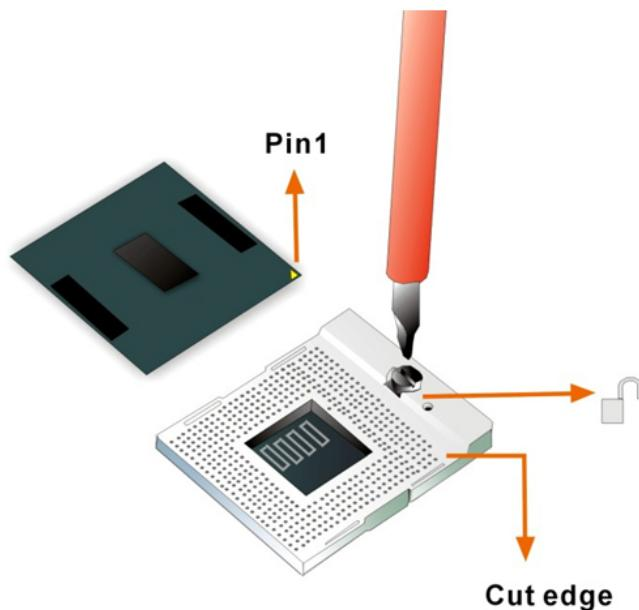

Figure 4-1: Unlocked Retention Screw
See Figure 4-1.
Step 4: Correctly position the CPU. Match the Pin 1 mark on the CPU with the marked corner on the CPU socket. See Figure 4-1.